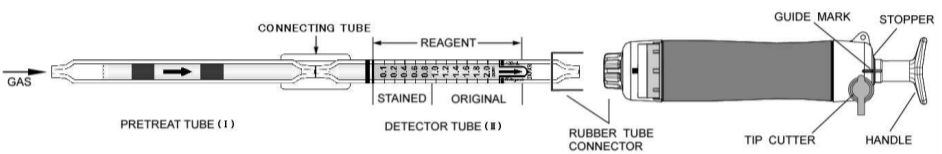

Fig.1
- ① Break both ends of the pretreat tube (I) and detector tube (II), and connect each end of the pretreat tube and detector tube with connecting tube connector as shown in Fig.1.
- ② Insert the detector tube into the aspirating pump securely as shown in Fig.1. (Arrow mark shall point to the pump.)
- ③ Align the guide marks on the handle and stopper of the aspirating pump.
- ④ Pull the pump handle at a full stroke until it locks and wait for 2 minutes or until the completion of sampling is confirmed with the flow indicator of the pump. (See descriptions about the flow indicator in the instructions manual of the pump.)
- ⑤ Turn the pump handle right or left by 1/4 (90°), push it toward the pump without removing the detector tube from the pump and repeat the step ③ to ④ three times more.
- ⑥ On completion of sampling, read the scale at the maximum point of the stained layer.
- ⑦ When the concentrations are over the scale range, 1 pump stroke can be used to determine concentrations of 0.7 to 14.0. After the above ① to ④ and completion of sampling, read the scale at the maximum point of the stained layer and correct the reading value by using correction table for 1 pump stroke. (REFER TO ITEM 3. CORRECTION FOR AMBIENT CONDITIONS.)